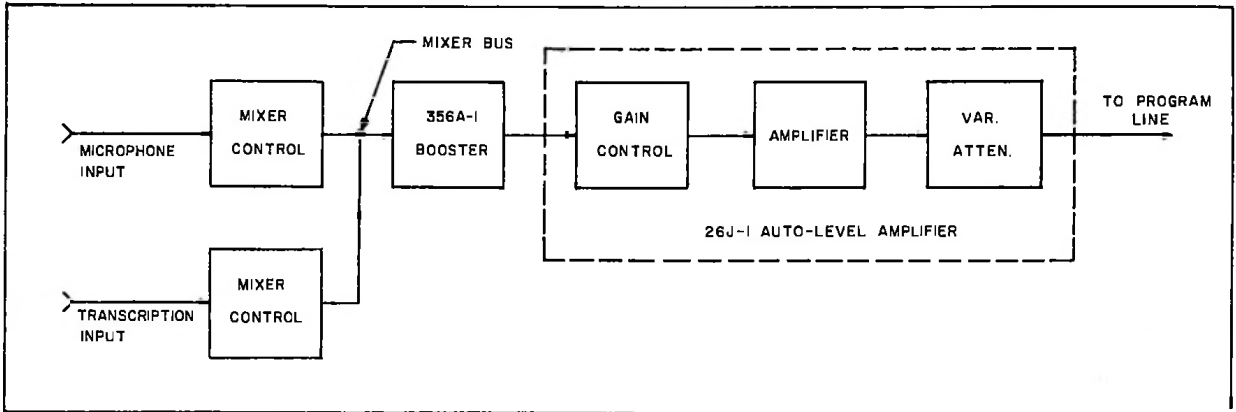

Figure 2. Collins Type 26J-1 Auto-Level Amplifier as Automatic Fader Control, Suggested Arrangement
6.2 THE 26J-1 AUTO-LEVEL AMPLIFIER USED AS AUTOMATIC FADER CONTROL. Refer to figure 2. The 26J-1 Auto-Level Amplifier is generally used in place of the console amplifier.